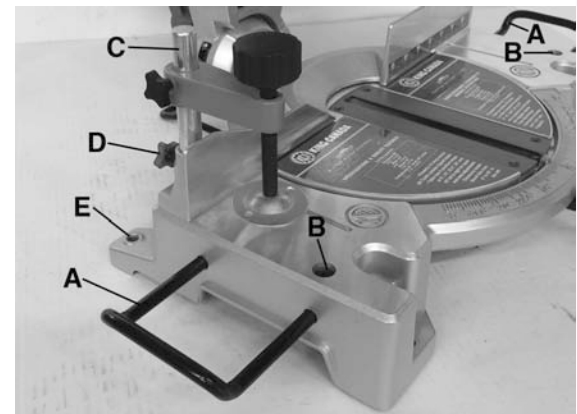

FIGURE 6
The extension wings (A) Fig.6 are installed by inserting them into the mounting holes on each side of the base. Push them in completely and secure them into place by tightening the top mounted flat head screws (B) on the top of the table on each side of the base.
The vertical vise assembly (C) Fig. 6 can be installed in two positions, either the left or right side of the fence. Insert the vise rod (C) into the hole in the fence and tighten the vise lock knob (D) on the back to secure the vise rod.
Before operating your compound miter saw, make sure it is firmly mounted to a workbench or other supporting surface. Four holes in the base are provided, one of which is shown at (E) Fig.6, for fastening the saw to a supporting surface.